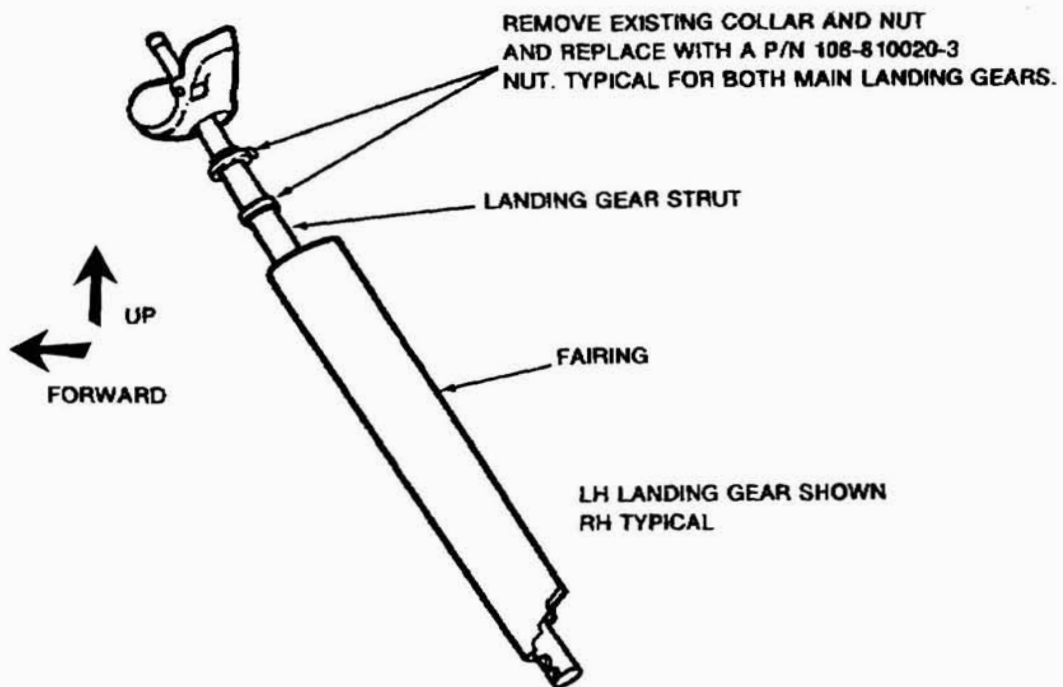

Figure 1
3. Refer to Figure 1 and remove and discard the existing collar and nut from the LH, RH or both landing gear struts. Remove the adhesive from the strut.